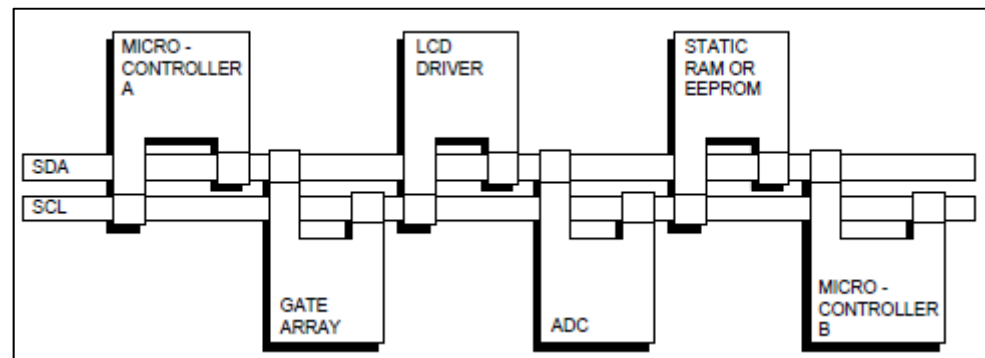

Figure 6 – I2C Bus Configuration [5]
- The I2C system is used extensively in multi-device systems where a wide variety of peripherals are required to be connected as in Figure 6.